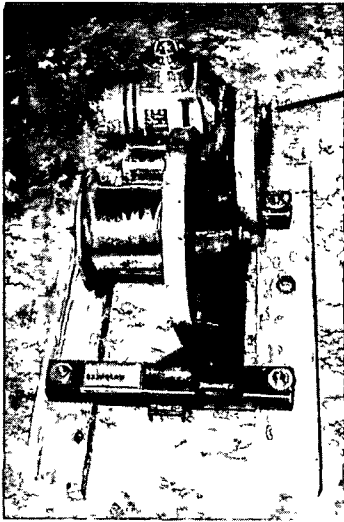

FIG. 1 PULLER DRIVE UNIT MOUNTED ON 2"X4" LUMBER AND ANCHORED TO FLOOR WITH 3/8" BOLTS (PAR. 3.2)
3.2 Locate the puller at or near the terminating end of the cable run in a manner to suit job conditions and arranged so that the operator will work from the floor. See Figures 1 to 4.